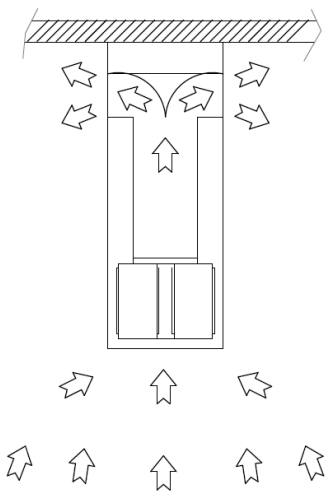

Fig.1.
- › In Recirculation mode (Fig.1), the air and fumes conveyed by the appliance are cleaned both by a grease filter and by an active charcoal filter, and put again into circulation through the side grids of the chimney. For this version an air deflector is placed in the upper part of the chimney allowing air recycling as necessary.